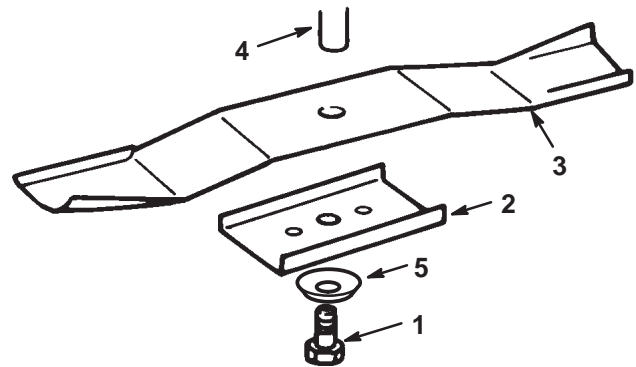

Figure 24
1. Install the blade, blade retainer, washer, and the blade bolt (Fig. 24).